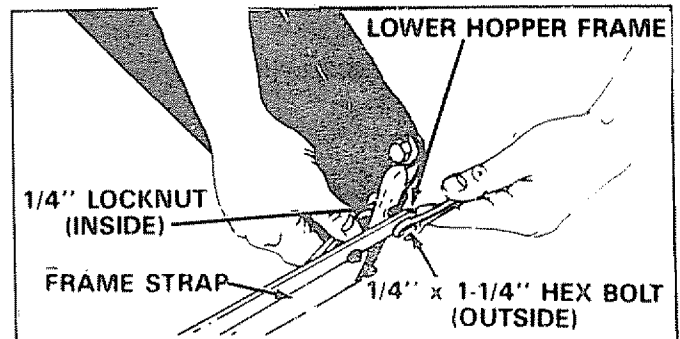

FIGURE 17
- Assemble the frame strap to the lower hopper frame. Secure with 1/4" x 1-1/4" hex bolts and 1/4" lock nuts. See figure 17.